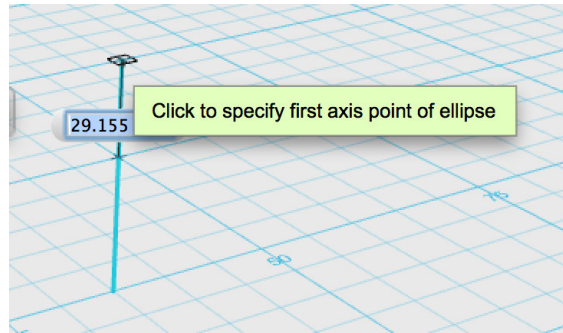

Figure 4-47 Set the first dimension of the ellipse
3. Click again to designate the height or length of the ellipse (Figure 4-47).